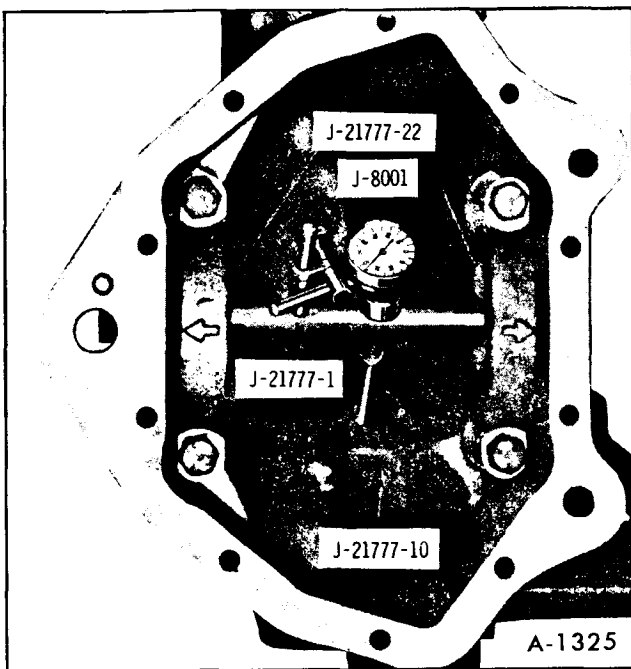

Figure 37-Pinion Depth Gauge Tool Installation
4. Remove dial indicator post from Tool J-21777-1 and install Discs J-21777-22 as shown in Figure 37. Reinstall dial indicator post.